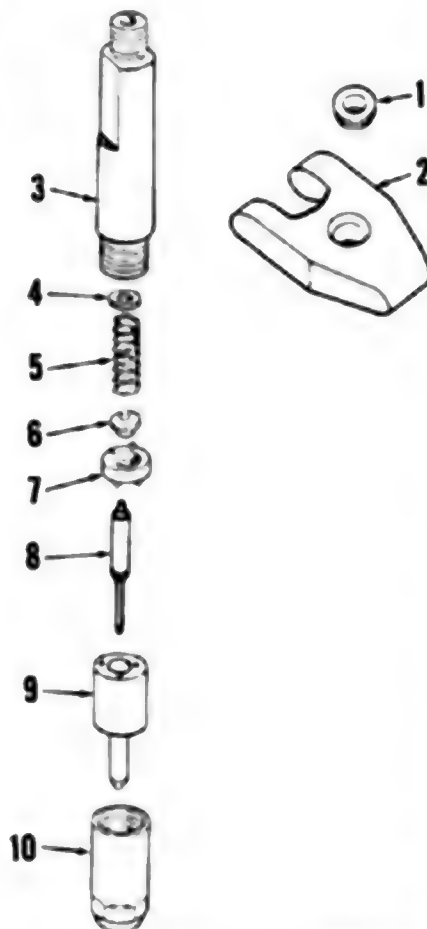

Fig. 50—Exploded view of Robert Bosch injector nozzle assembly used on all models.
**62. OVERHAUL.** To disassemble the injector, clamp flats of nozzle body (3—Fig. 50) in a vise with nozzle tip pointing upward. Remove nozzle holder nut (10). Remove nozzle tip (9) with valve (8) and spacer (7). Invert nozzle body (3) and remove spring seat (6), spring (5) and shims (4).